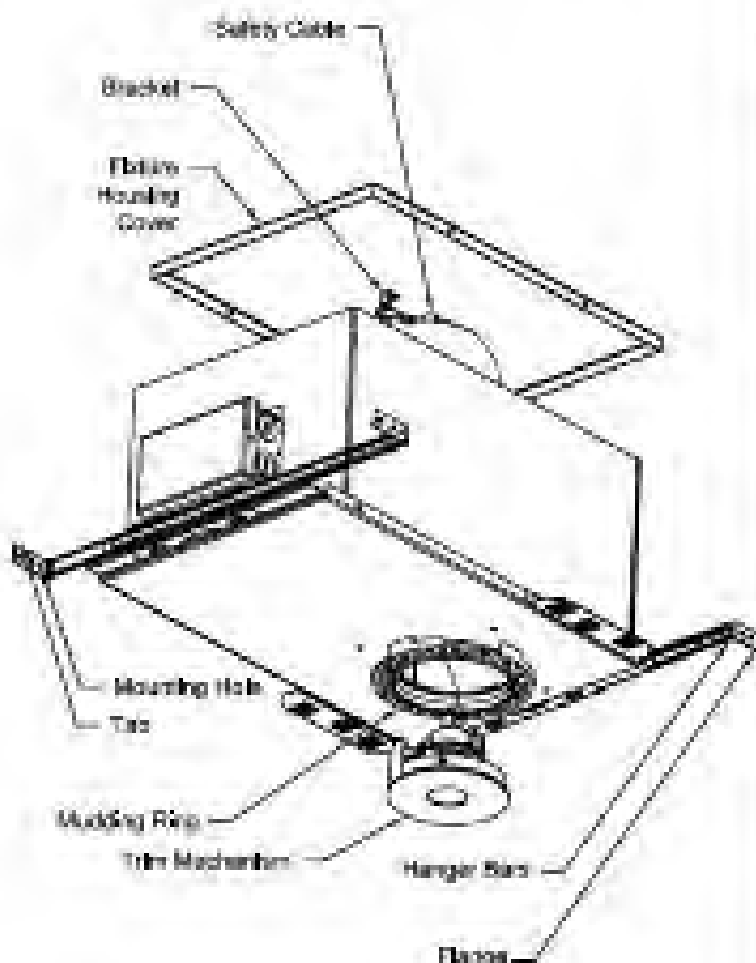
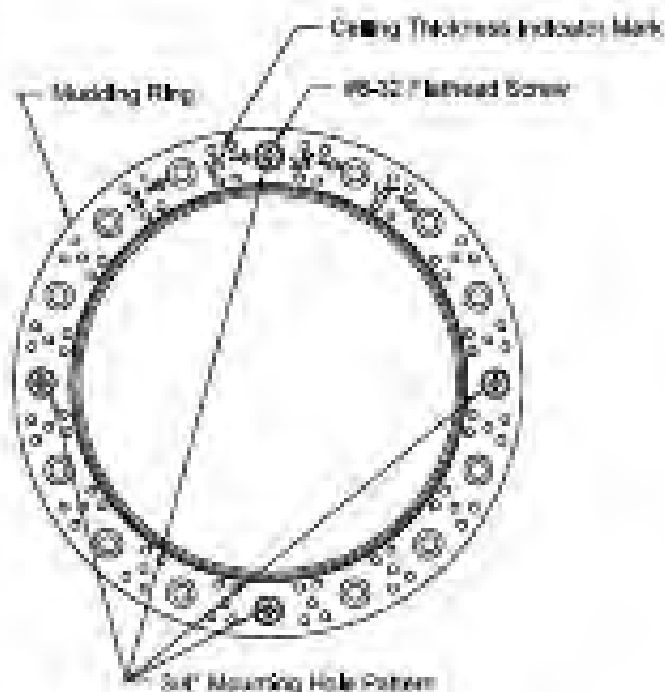
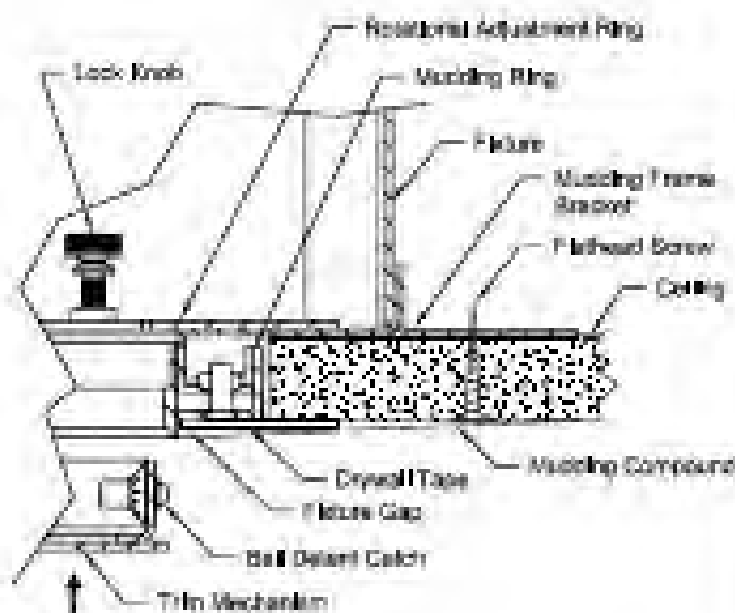

Figure 1
Figure 2
Figure 3
2. Hammer Flanges to seal Hanger Bar Tabs in ceiling. See Fig. 1.
3. Secure Hanger Bars using one (1) nail in Mounting Hole in each Flange.
4. Mudding Ring is sent unmounted from factory. Adjust Mudding Ring to applicable Ceiling thickness by aligning and securing to fixture using applicable Mounting Hole Pattern as dictated by Ceiling Thickness Indicator Mark Imprinted on Mudding Ring. See Fig. 2.
5. Secure Mudding Ring using four (4) #8-32 x 1/2 inch Flathead Screws (for 1/2 inch, 5/8 inch and 3/4 inch Ceiling thickness) or four (4) #8-32 x 3/4 inch Flathead Screws (for 1 inch Ceiling thickness).
6. Install Ceiling drywall up to Mudding Ring on Fixture so that the two (2) Mudding Frame Brackets contact both sides of Ceiling. See Fig. 3.
7. Retain Fixture to Ceiling with one (1) Flathead Screw through each of the two (2) Mudding Frame Brackets. See Fig. 3.
8. Apply Drywall Tape and Mudding Compound to Mudding Ring overlapping Mudding Ring, Flathead Screws, Fixture Gap and surrounding area. Feather out Mudding Compound from Mudding Ring opening to surrounding ceiling area to produce a smooth, flat finish. See Fig. 3.
1. Connect Safety Cable attached to Banana Bracket on Trim Mechanism (See Fig. 1 & 5) to Fixture by inserting Safety Cable through opening in Fixture and inserting Snap Hook (See Fig. 3) on end of Safety Cable into Ball Bracket attached to Inside of Fixture Housing Cover (See Fig. 1 & 2).
2. Install Trim Mechanism into Fixture by pressing firmly to seal Ball Detent Catcher. See Fig. 3.